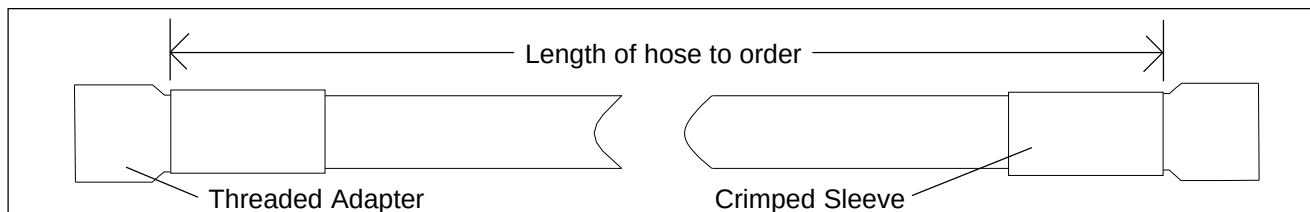

Figure 4 — Measuring Hose
3. Do not remove the hose from the components. Measure the hose from the end of one crimped sleeve to the outer end of the other hose crimped sleeve using a tape measure (refer to Figure 4). This will usually require more than one person to get an accurate measurement. Notice if the hose end fittings are different than straight fittings and write down both the hose length and end fittings type.